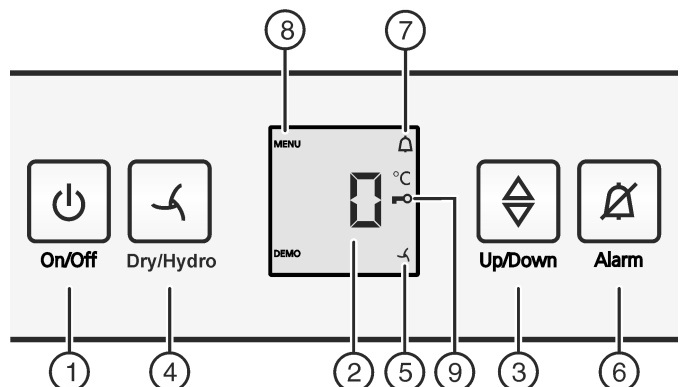

Fig. 2
- ▶ Press On/Off button *Fig. 2 (1)*.
- ▶ To activate setting mode: press the Dry/Hydro button *Fig. 2 (4)* for approx. 6 seconds.
- ▷ The menu symbol *Fig. 2 (8)* shines.
- ▶ Briefly press the Dry/Hydro button *Fig. 2 (4)* to confirm. When **cl** is indicated in the display:
- ▶ Briefly press the Dry/Hydro button *Fig. 2 (4)* to activate the child lock.
- ▷ The child lock symbol *Fig. 2 (9)* shines. **c** flashes in the display. When **c0** is indicated in the display:
- ▶ Briefly press the Dry/Hydro button *Fig. 2 (4)* to deactivate the child lock.
- ▷ The child lock symbol *Fig. 2 (9)* goes out. **c** flashes in the display.
- ▶ To deactivate the setting mode: Press the On/Off button *Fig. 2 (1)*.
- ▶ Press alarm button *Fig. 2 (6)*.